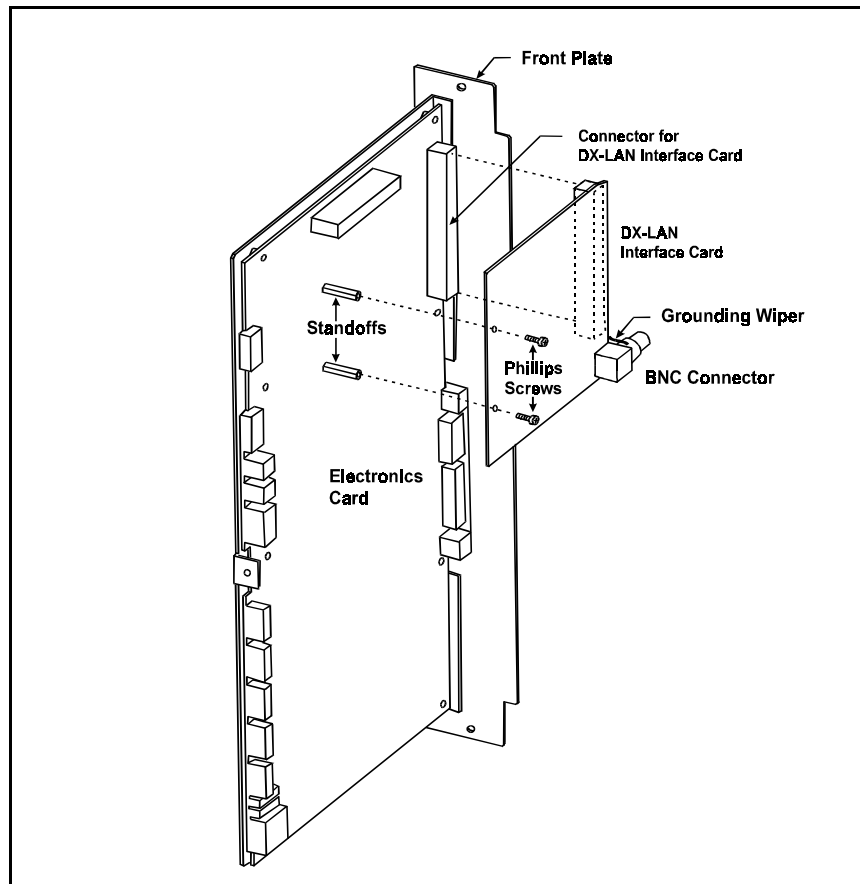

Figure B-23. Installing the DX-LAN Interface Card
6. Pull out the electronics card far enough to allow access to the DX-LAN connector on the top edge of the card (see Figure B-23).
7. Align the BNC connector on the interface card with the opening on the electronics card front plate and insert the interface card connector into the connector on the electronics card (see Figure B-23). The small stainless steel grounding wipers on the BNC connector slide behind the front plate. Press firmly on the card until it mates fully with the electronics card connector.